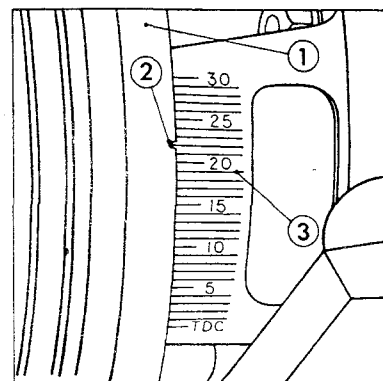

FIG. 11
- a. Some models are equipped with a timing scale just forward of crankshaft pulley on port side (See Figure 11). Rotate engine crankshaft until timing mark (a saw cut or scratch mark) on periphery of pulley coincides with the desired mark on scale. See "Specifications".